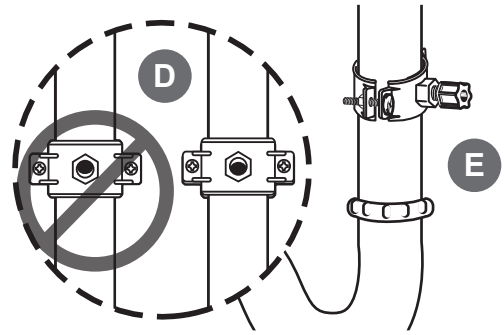

Figure 10
- Make sure the black rubber gasket is adhered to the inside of the drain clamp and place the drain clamp assembly over the drilled hole. Look through the hole and position the clamp so that the center of the clamp hole is slightly higher (about 1/16") than the center of the drilled hole. (See Figure 10). Tighten the clamp securely.